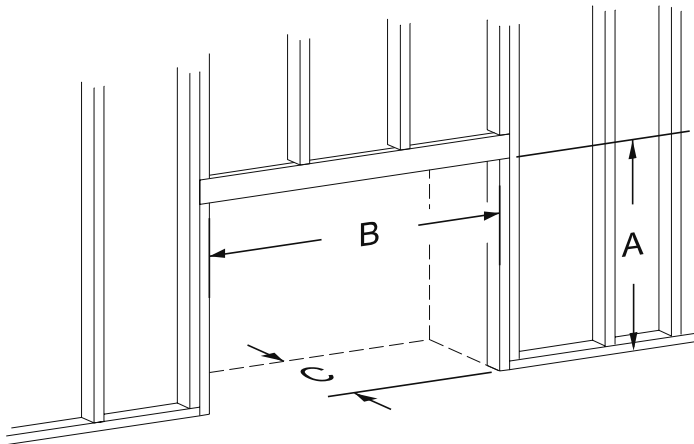

Figure 44 - Rough Opening for Installing in Wall
- Use dimensions shown in **Figure 44** for a conventional rough opening.
TABLE 4 - FRAMING DIMENSIONS (in inches) FOR FIGURES 44 - 46